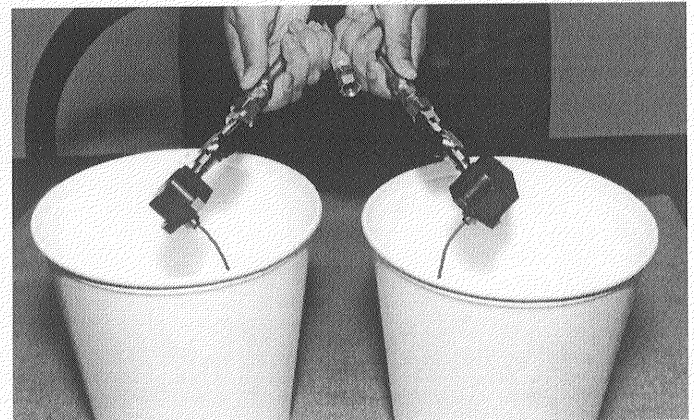

Fig. 1
- 3. Place separate clean containers under each individual Side Block. Open manual Material Valves (black arrow forward, see Fig. 2 & 3) on each Side Block to allow trapped air to escape the Hose and material to flow into the containers until all air is purged from the material system. (see Fig. 1) This process can be expediated by starting the main proportioner and allowing it to cycle slowly.